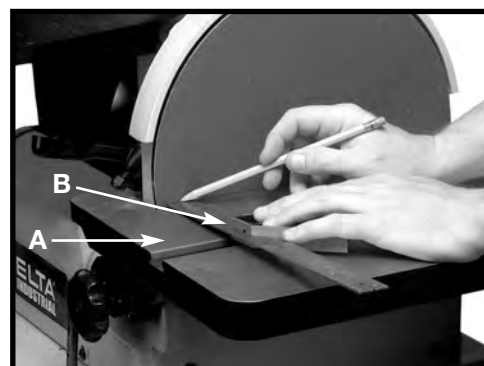

Fig. 35
1. With the table (A) Fig. 35 positioned 90 degrees to the disc, place a square (B) in the miter gauge slot with the blade of the square touching the sanding disc.
2. Use a pencil to mark the disc where the blade contacts it. (Fig. 35).